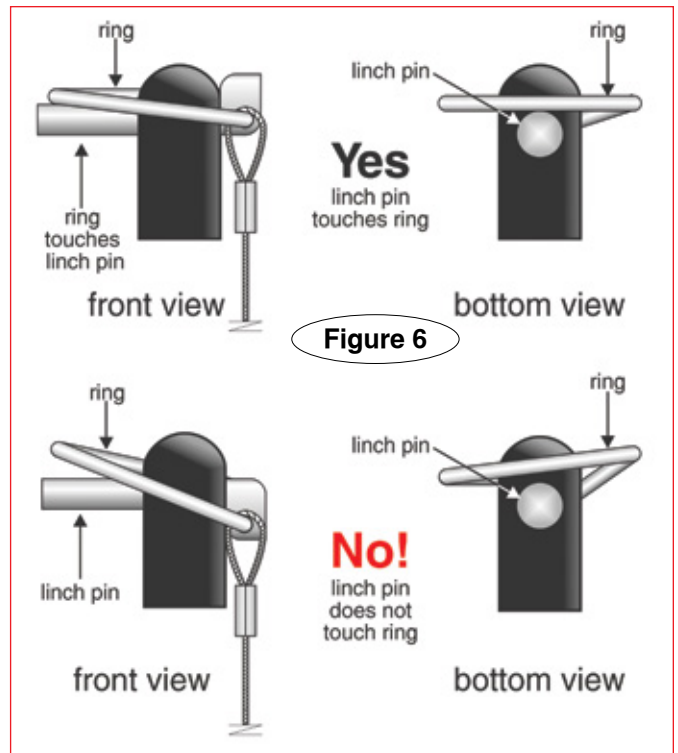

Figure 6
5. Insert the linch pins (Figure 6) through the upper holes in the vertical pins on both QDs. Both linch pins must be locked. The rings are spring-loaded – they must be snapped over the pin, with the pin touching the ring, in order to keep the tow bar secure. If a pin does not touch the ring, rotate the pin around the ring.
less they are properly locked in place over the vertical pins on both quick-disconnects. Refer to Figure 6.